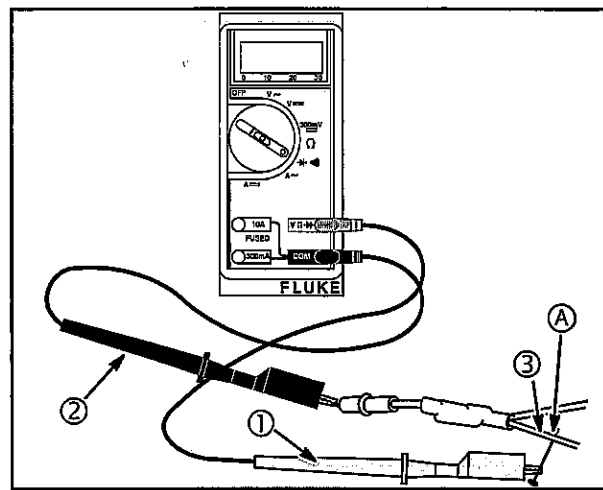

Fig. 22
4. Attach RED test lead clip (1) to point A, of the WHITE wire (3) Fig. 22. (It may be necessary to pierce wire with a pin as shown.)
5. Insert BLACK test lead probe (2) into harness connector.